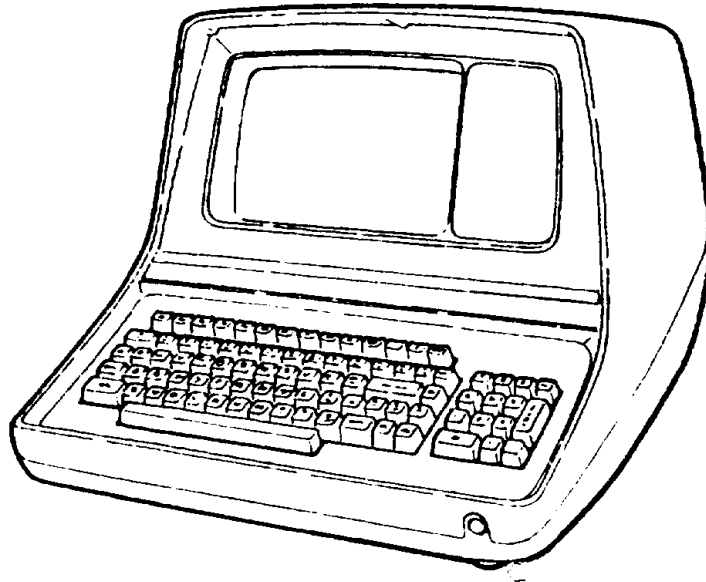

Figure 1-4. Cathode Ray Tube (CRT) Terminal
(1) CRT. The CRT (fig. 1-4) presents a description of the symptom(s), providing the operator/student a reference from which to begin troubleshooting. The computer monitors trainee progress for proper sequence of task actions and elapsed time and provides the student with work instruction on the CRT if he deviates from the proper procedure. Using printed instructions, procedures, and malfunction symptoms, the CRT cues and guides the trainee. Upon completion of troubleshooting, the CRT, when cued by the instructor, displays student performance information.